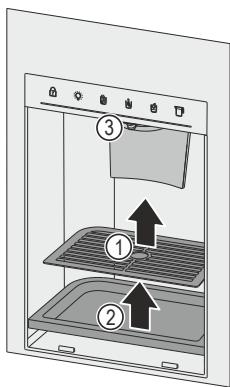

Fig. 165 Removal of drip grid and drip tray
- Remove the drip grid Fig. 165 (1).
- Remove the drip tray Fig. 165 (2).
- Clean the outlet Fig. 165 (3) and surrounding area with a soft, clean cloth, lukewarm water and a little rinsing liquid.